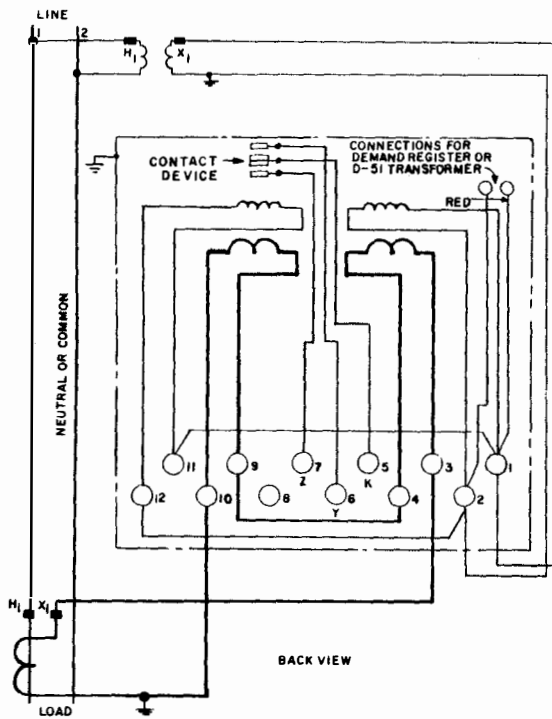

Fig. 9. Connections for Types DS-53, DSM-53, and DSW-53 meters, 2-wire single-phase, with potential and current transformers
The connection diagrams in this book (Figs. 9 through 21) show approved methods of wiring these meters. Other methods are possible which are electrically equivalent and which, for particular installations, may result in more convenient or economical wiring. If the meter is properly connected in the circuit, the disk will rotate counter-clockwise, as viewed from above.
**NOTE:** In this edition minor changes have been made to the connection diagrams (Figs. 9 through 21), solely to improve clarity and consistency.